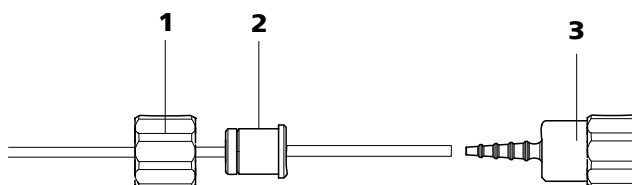

Figure 33 Install pump tubing connection without filter
- **Case B:** a 6.2744.160 pump tubing connection **without filter** (see Figure 33, page 62).